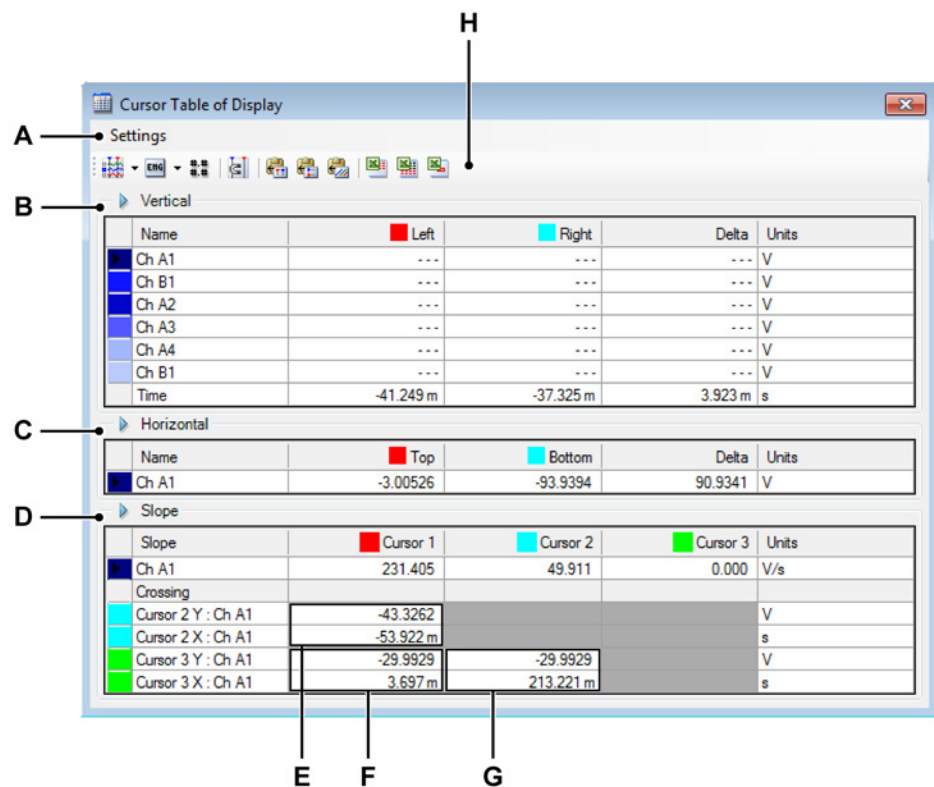

Figure 6.30: Cursor Table
- E, F, G** Refer to Figure 6.30 "Cursor Table" on page 172, for the location of the following details: